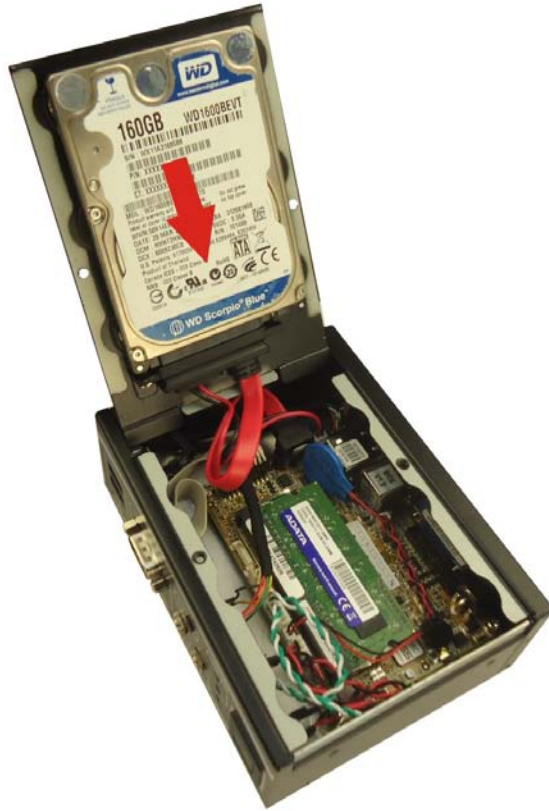

Figure 3-3: HDD Retention Screws
Step 3: Attach the HDD to the HDD bracket, and then slide the HDD to connect the HDD to the SATA connector. (**Figure 3-3**).